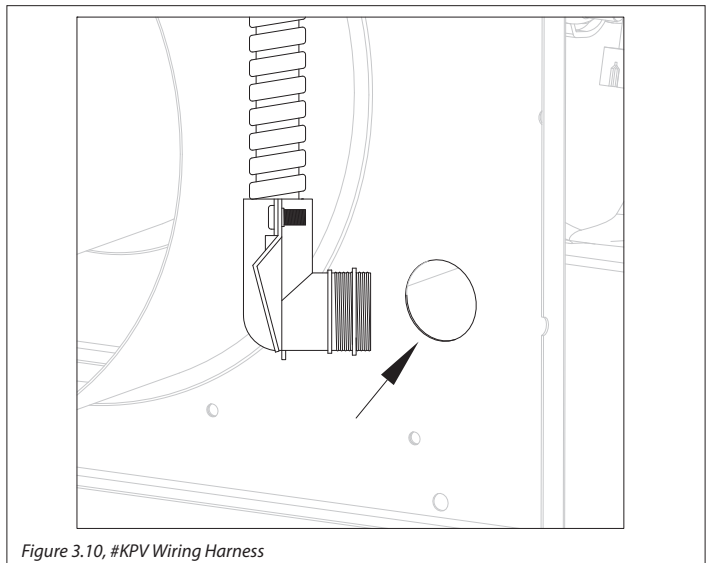
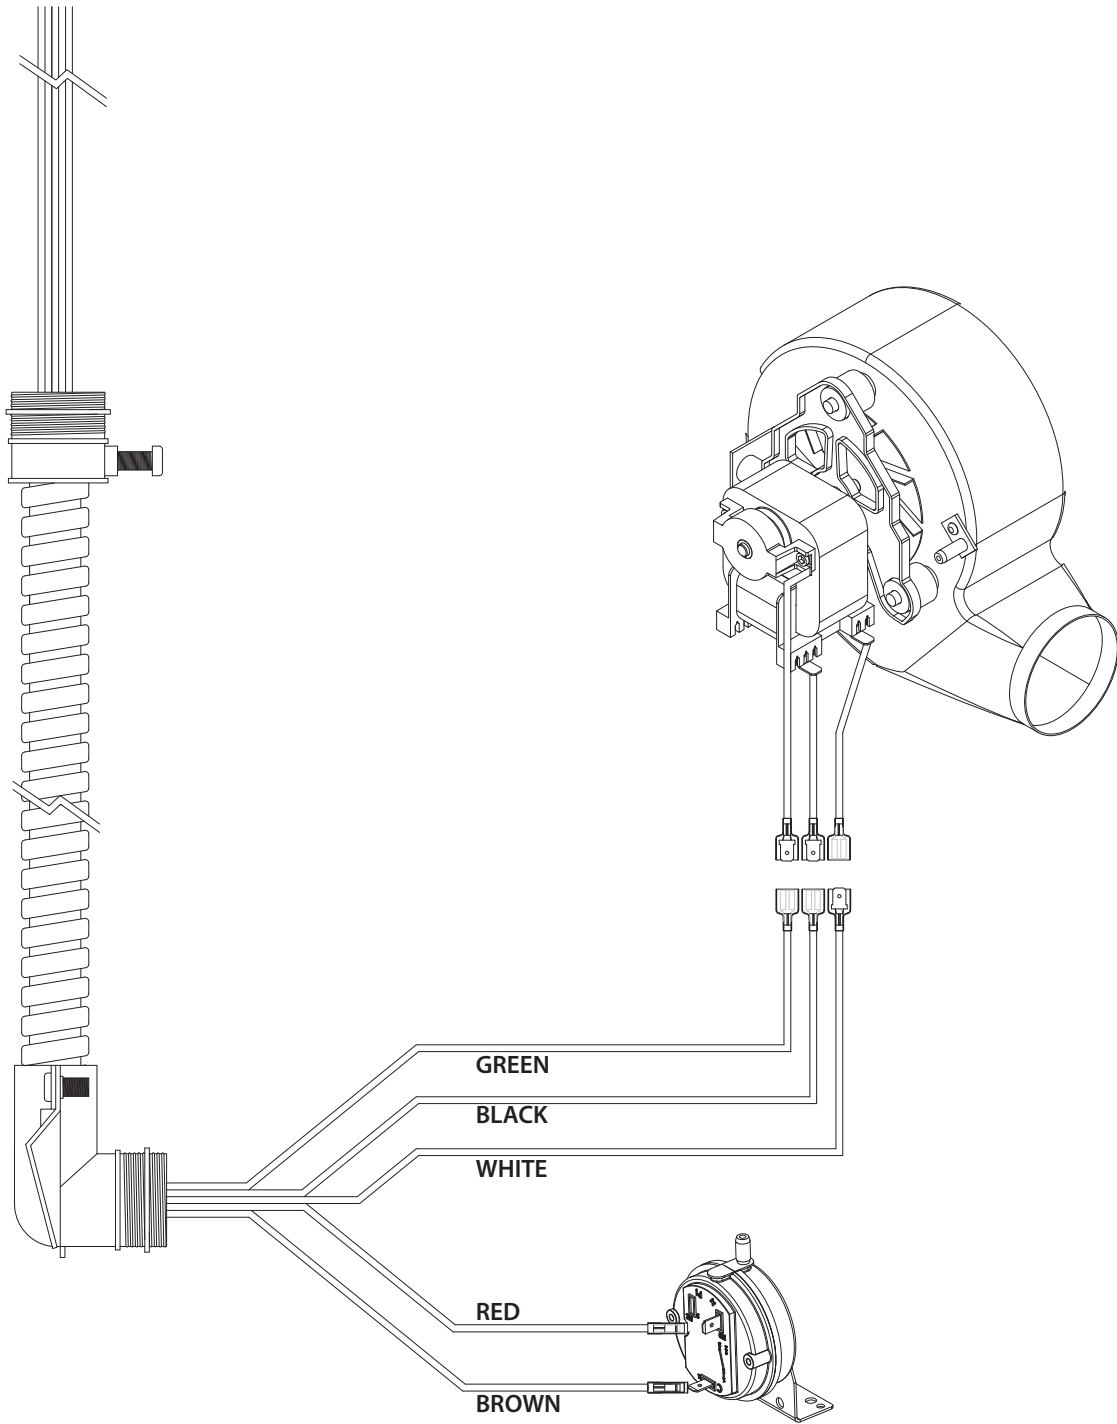

Figure 3.10, #KPV Wiring Harness
Figure 3.13, Power Vent Internal Wiring
4. Install #KPV wiring harness through the electrical access hole in the back cover cap. See Figure 3.10 and Figure 3.13.
See Figure 3.13, Power Vent Internal Wiring on page 14 for wiring schematic accompanying these instructions.